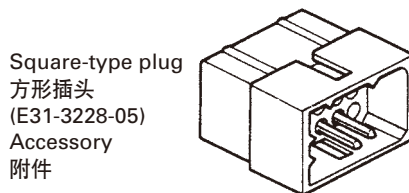

Fig. 2-1 / 图 2-1
1. Remove the connector with jumper from the external speaker connector on the rear panel of the radio. (Fig. 2-1)
1. 从中继台后面板的外部扬声器连接器上拆下带跳线的连接器。(图 2-1)